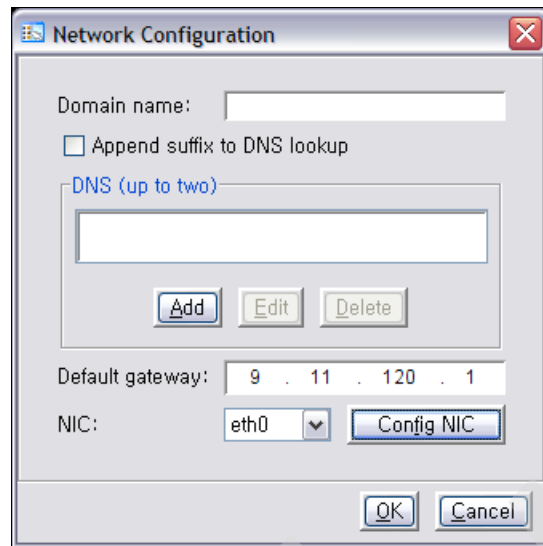

Figure 6-29 Network Configuration menu
2. You can review and optionally specify new configuration values in the TS7530 VE for Tape Server Network Configuration window shown in Figure 6-29.